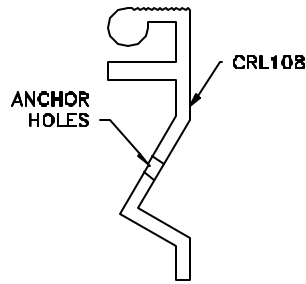

Figure 3
- STEP 4.** Drill the anchor holes into the Center Plate Supports at the locations marked in Step 3 (see Figure 3). Repeat the procedures provided in Step 3 and Step 4 for each section of the Center Plate Support.